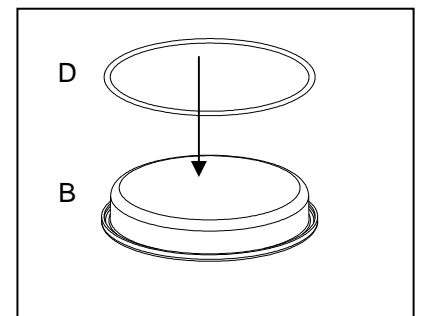

Fig. 6
6. Turn over the cover and locate the groove. Place the o-ring into the groove. Fig. 6